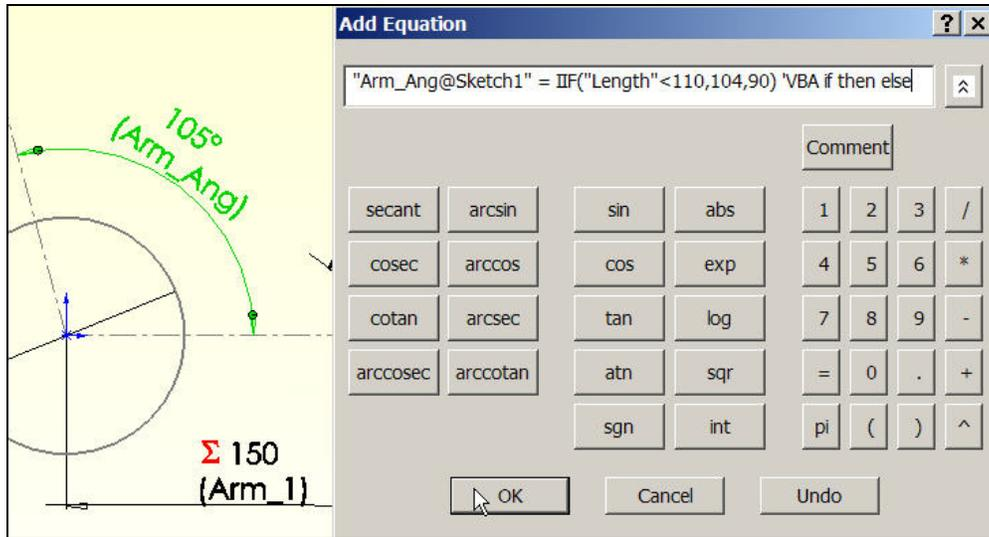
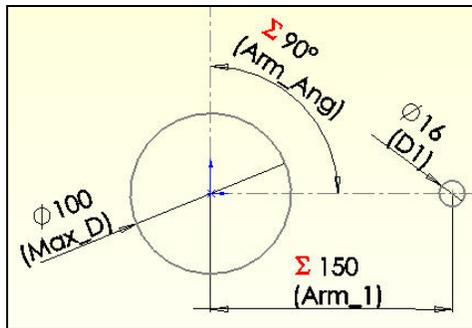

Figure 9 A new equation tied to parametric constant “Length”
Figure 10 Equation 3 activated via a Rebuild
The actual expression is seen in Figure 9, along with a user comment. Hitting **OK** places the third equation in the **Equations panel**. However, this new equation does not take effect until the part is rebuilt. Then the angle assumes the desired value, and the **equation symbol** appears in front of the dimension value to indicate that it depends on an expression. Those two changes are displayed in Figure 10. (See the appendix for other VBA equation examples.)
2. Change the name of the drill hole dimension (D1, Figure 10) to **Drill\_D**.